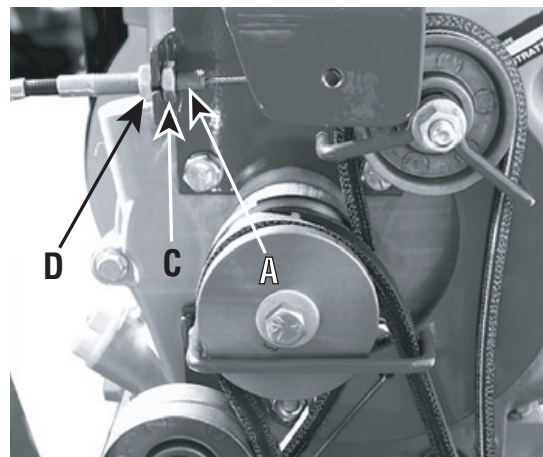

Figure 5-6: Move threaded adjuster (A) to left to increase belt tension..
5. Release the Reverse Clutch Control knob and then unthread the inner jam nut (C, Figure 5-6) one to two turns. Pull the threaded cable adjuster (A, Figure 5-6) to the left until the inner jam nut (C) touches the bracket.
6. Prevent the inner jam nut (C) from turning and tighten the outer jam nut (D) against the bracket. Prevent the outer jam nut (D) from turning and tighten the inner jam nut (C) against the bracket.